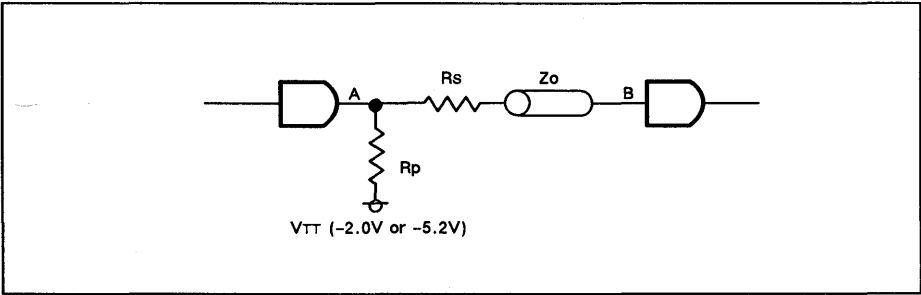

Figure 8. Series Termination
resistor R_s in series with the output of the gate as shown in Figure 8. In this case, the value of R_p is such that it can drive 5 – 15mA of current. As for V_{TT} , $-2.0V$ is not compulsory, hence $-5.2V(10K)$ can be used. It is mandatory that R_s be equal to Z_o . Signal transmitted from (A) is reflected at (B). But due to the presence of R_s ($R_s=Z_o$), this signal is not seen at (B). The advantage of this method is that the power does not increase as much as in the parallel termination method even when multiple lines are connected to (A). (Note: This advantage is not effective if the load is distributed on the signal lines.)